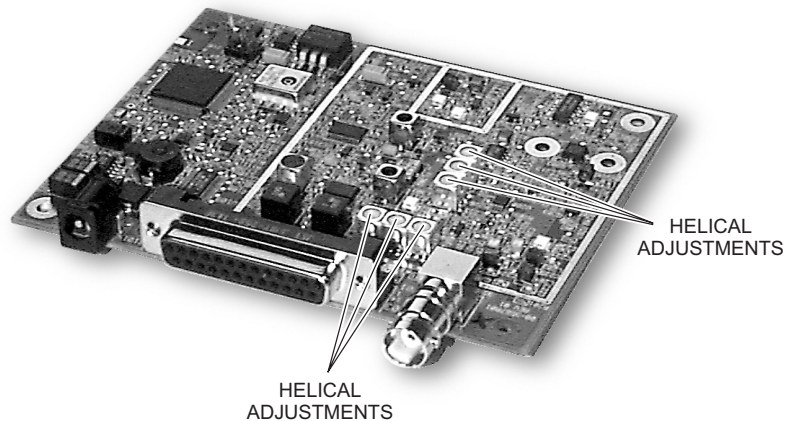

Figure 14. Helical Filter Location
3. Locate the helical filters. See Figure 14.